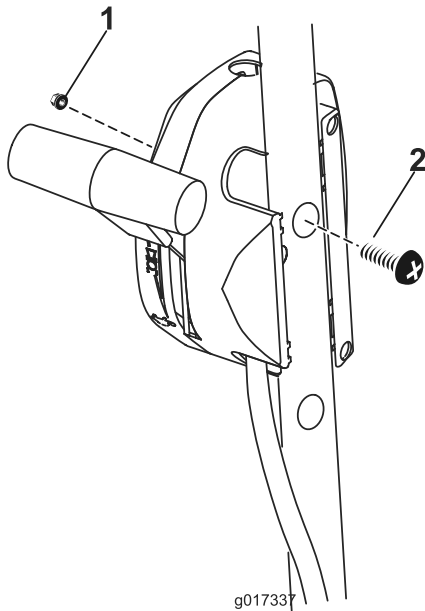

Figure 5
- Attach the throttle assembly to the outside of the handlebar and secure it with a nut and a pan screw (Figure 5).